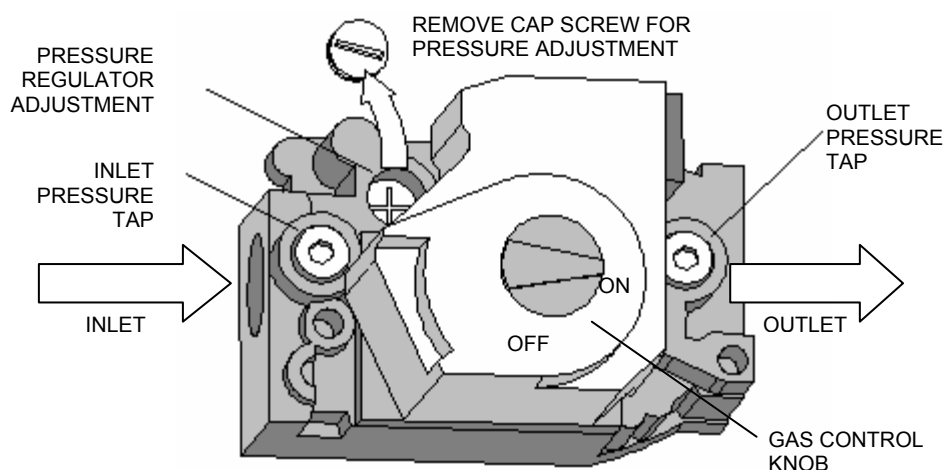

Figure 32 - Gas valve (SIT 830) of the appliance.
On each unit, proceed as follows, referring to the parameters indicated in Table 21 on page 72 and to the Figure 32 on page 72:
1. Unscrew the fixing screw of the gas pressure intake (detail B in Figure 32 on page 72).
7. With gas valve closed, unscrew the fixing screw of the gas pressure outlet (detail C, Figure 32 on page 72).
keep the burner lit and the manometer connected; remove the protective cap of screw A (detail A, Figure 32);
turn screw A of the gas valve (detail A, Figure 32), clockwise to increase the pressure or anticlockwise to decrease it, until the pressure indicated in Table 21 is reached;
16. Remove the manometer and retighten the fixing screw of the gas pressure outlet (detail C, Figure 32).